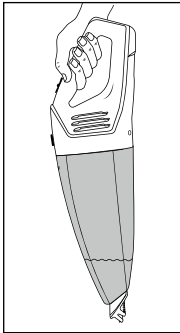

Fig. 3
- ▶ If you have vacuumed liquids, always carry the appliance with the wet suction nozzle **1** pointing downwards (see fig. 3):